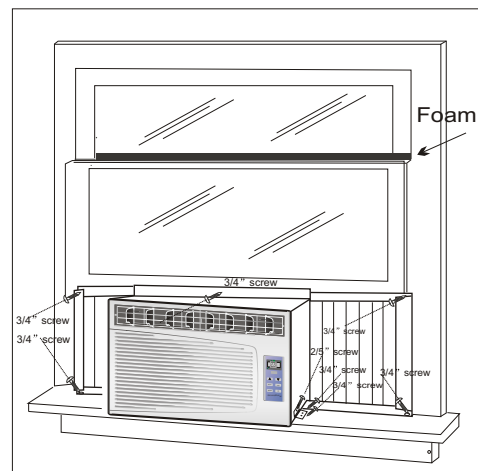

Fig. 6
6. Carefully lift the air conditioner and slide it into the open window. Make sure the bottom guide of the air conditioner drops into the notches of the L brackets. When the air conditioner drops into the L brackets, the air conditioner will be centered in the window opening as show in Fig. 6.
First, fix both sides onto the window sill with two 3/4" screws and one 2/5" screw (which is unscrewed from each side of the unit). Then fix top channel to window sash with one 3/4" screw and fix side curtain frames with four 3/4" screws as shown in Fig.6.